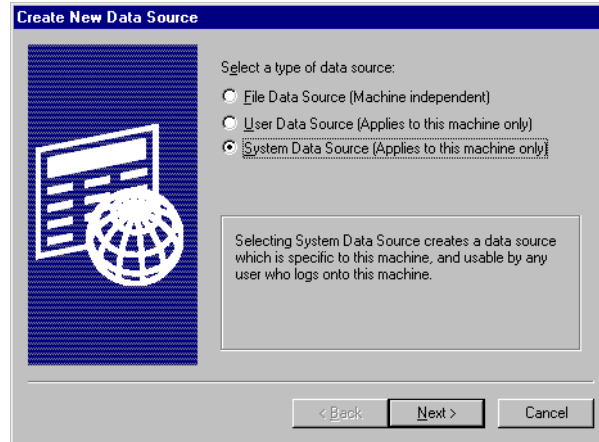
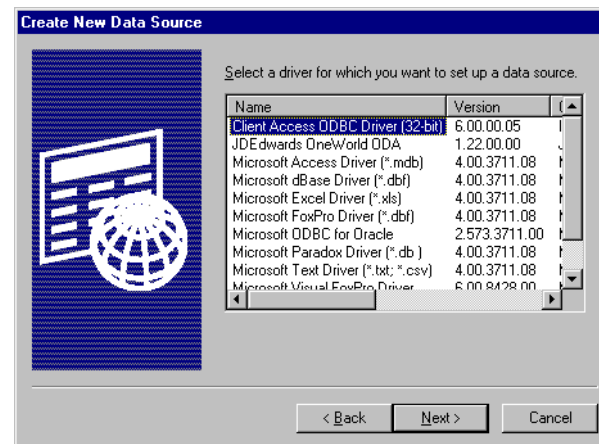
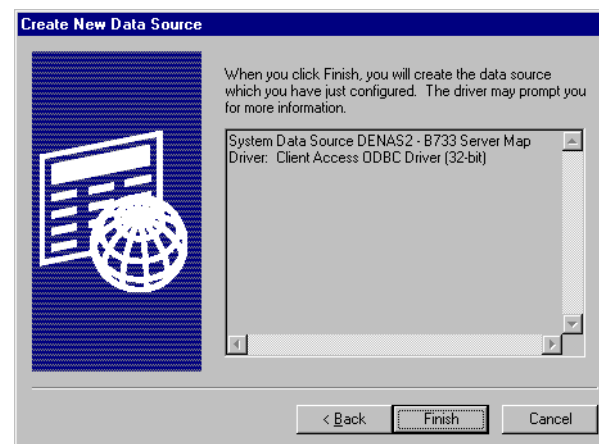

Figure 63. Create New OneWorld Data Source (Part 1 of 3)
Figure 64. Create New OneWorld Data Source (Part 2 of 3)
Figure 65. Create New OneWorld Data Source (Part 3 of 3)
3. Click **System Data Source** on the Create New Data Source form as shown in Figure 63. Click **Next**. The Create New Data Source form to select the correct data source driver appears, as shown in Figure 64. Select **Client Access ODBC (32-bit)**. Click **Next**. The Create New Data Source form to verify the creation of the configured data source appears, as shown in Figure 65.
4. Click **System Data Source** on the Create New Data Source form and you should see a form similar to Figure 63 on page 197. Click **Next**. The Create New Data Source form to select the correct data source driver appears, similar to the example in Figure 64 on page 197. Select **Client Access ODBC (32-bit)**. Click **Next**. The Create New Data Source form to verify the creation of the configured data source appears, similar to the example in Figure 65 on page 197.
22. Click **System Data Source** on the Create New Data Source form. You should see a form similar to the example in Figure 63 on page 197. Click **Next**. The Create New Data Source form to select the correct data source driver appears, similar to the example in Figure 64 on page 197. Select **Client Access ODBC (32-bit)**. Click **Next**. The Create New Data Source form to verify the creation of the configured data source appears, similar to the example in Figure 65 on page 197.
40. Click **System Data Source** on the Create New Data Source form and you should see a form similar to the display in Figure 63 on page 197. Click **Next**. The Create New Data Source form to select the correct data source driver appears, similar to the example in Figure 64 on page 197. Select **Client**
Access ODBC (32-bit). Click **Next**. The Create New Data Source form to verify the creation of the configured data source appears, similar to the display in Figure 65 on page 197.